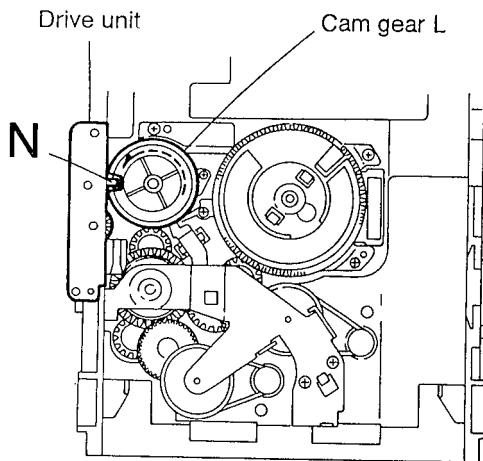

Fig.5-50
(See Figs. 5-50~5-52)
- While turning the cam gear L, align the pawl "N" position of the drive unit to the notch position (Fig. 5-50) on the cam gear L.